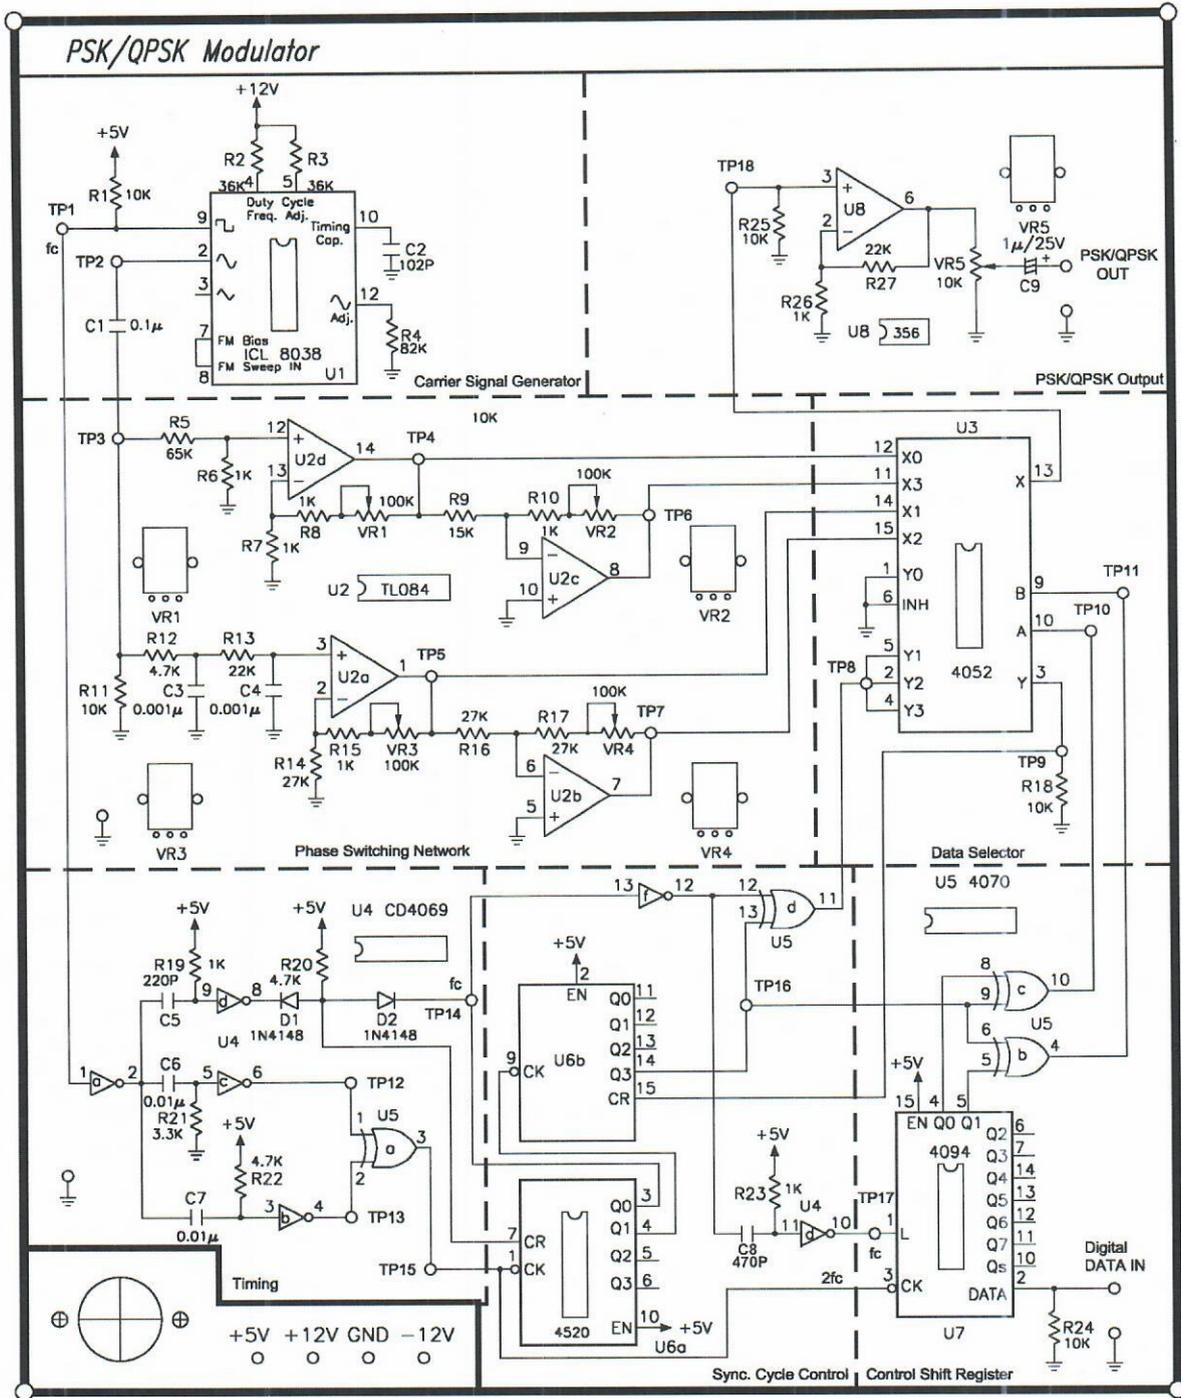

Figure 19-9 KL-94006 module
Figure 19-9 shows the schematic diagram of PSK/QPSK modulator. The precision waveform generator chip ICL8038 serves as the carrier signal generator that produces sinusoidal and square waves. The
1. Apply the required power supply voltages +12V, -12V, and +5V to PSK/QPSK Modulator module KL-94006 shown in Figure 19-9.